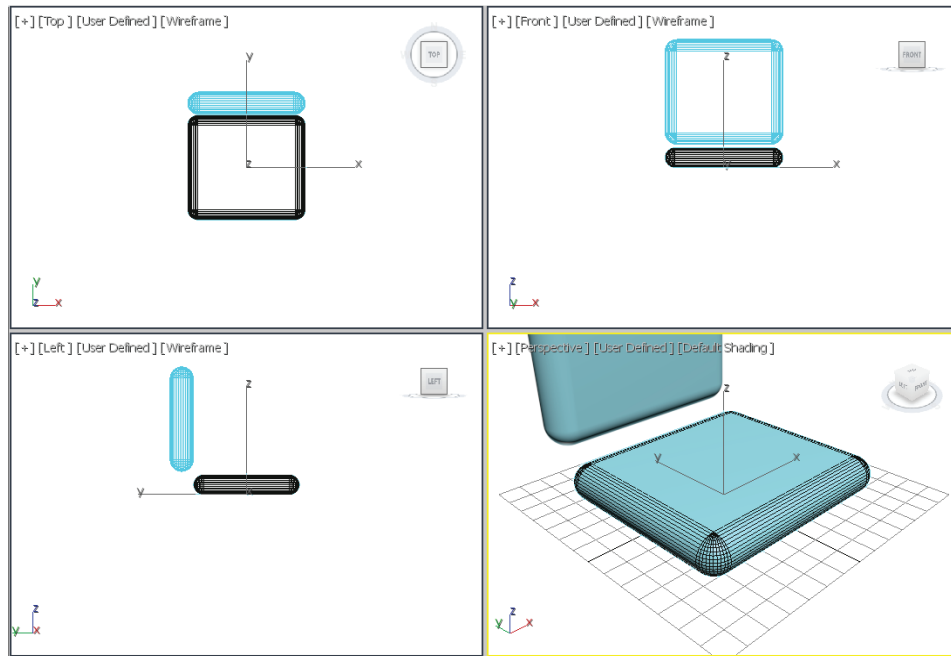

Figure 3-32 The back support geometry in viewports
- Choose the **Create** button; a chamfer box is created. In the **Parameters** rollout, make sure the value in the **Fillet Segs** spinner is set to **10** and enter **back support** as the name of the chamfer box in the **Name and Color** rollout, refer to Figure 3-32.